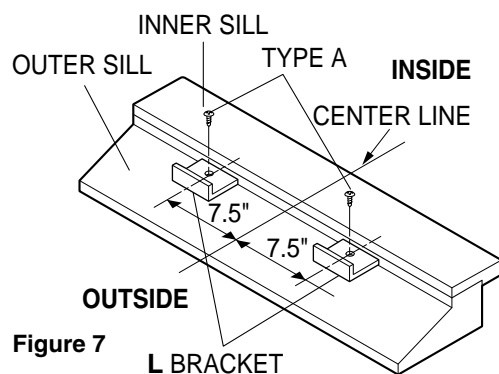

Figure 7
- b. The bracket helps to hold unit securely in place. Be sure to place bracket edge flush against back of inner sill. See Figure.7.